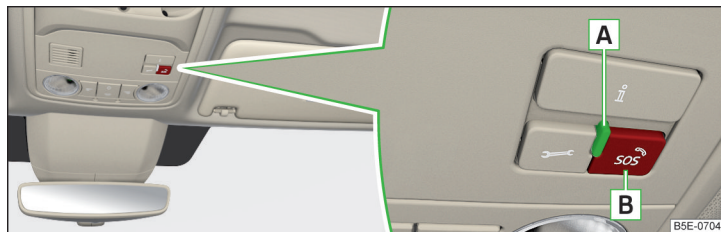

Fig. 10 Emergency call button
- ▶ Press and hold the **B** » Fig. 10 button.
The **system status** is displayed after the ignition is switched on, by the illumination of warning lamp **A** » Fig. 10.